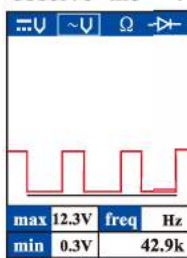

Figure 11
- Release vacuum and observe the LCD readings. (Figure 11)